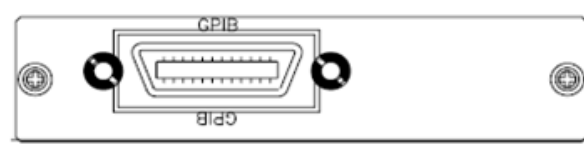

Figure 4: 44M02 GPIB Connection
- Please make sure the lock screws are firmly hand-tightened, use a screwdriver only for the removal of screws. Figure 4 shows the rear panel of 44M02 mainframe. The GPIB address of the 44M02 mainframe is set on the front panel.